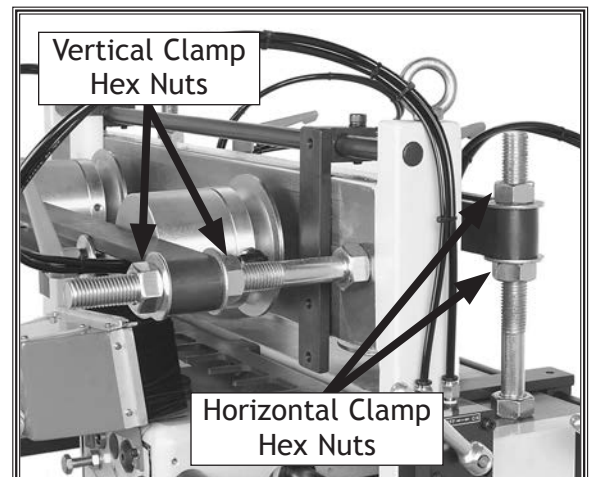

Figure 18. Hex nuts for adjusting clamping thicknesses (only one side shown).
2. Use an adjustable wrench to loosen the hex nuts shown in **Figure 18** away from the clamp mounting bracket.